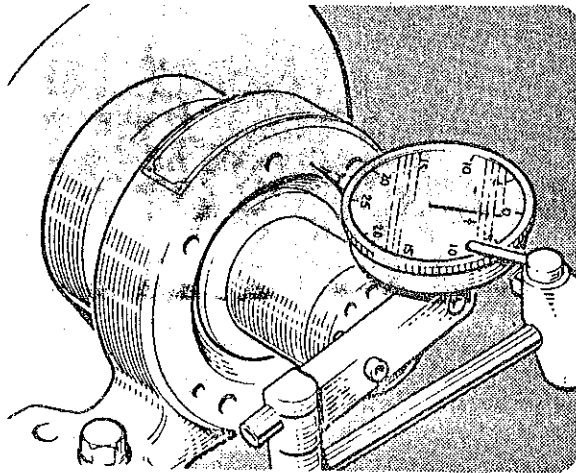

Figure 24. Indicating alignment
- (g) After replacement of any part of the pillow block bearings, alignment check is necessary. A reliable, accurate dial indicator with stand must be obtained and a bracket for it must be made (Figure 24). Make the bracket to mount on the hub, the mounting screws being 180° apart. Mount the indicator stand on this bracket so that the indicator pointer can ride as close to the full 360° as possible on the face of the bearing housing without obstruction.